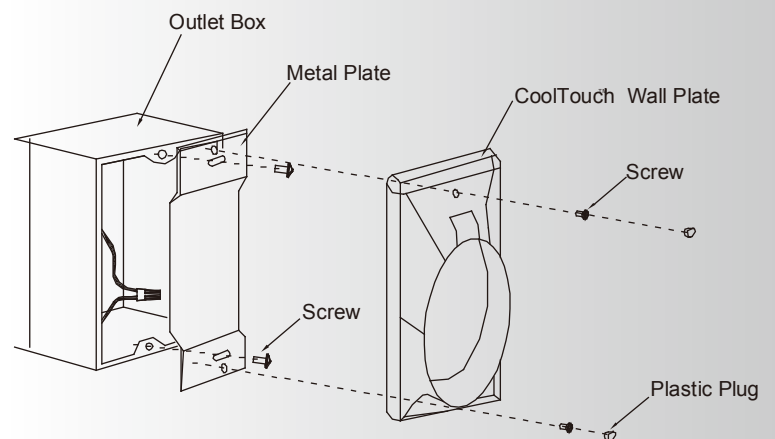

Fig. 23
Step 2. Install the metal plate and CoolTouch™ wall plate to the existing wall outlet box with 4 screws provided. Then place the two plastic plugs into the wall plate. (Fig. 23)